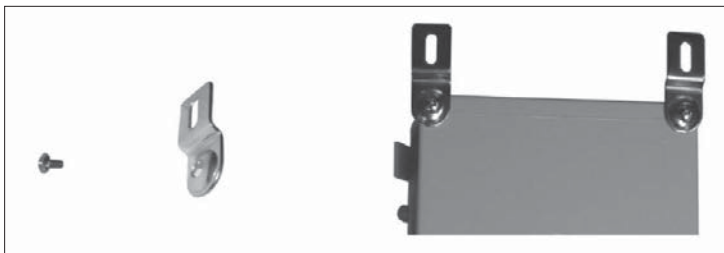

Figure 4 - Mounting the Enclosure
1. For outdoor enclosures, attach the mounting brackets to the back of the enclosure with the four provided screws as shown in Figure 4.